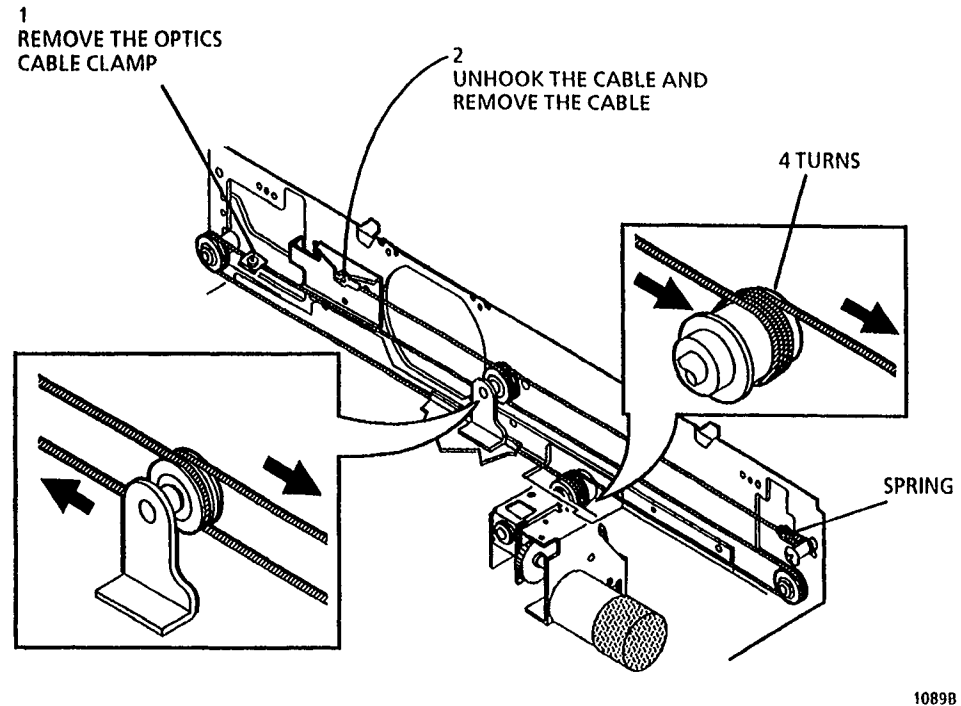

Figure 2. Removing the Optics Cable
4. (Figure 2): Remove the Optics Cable.